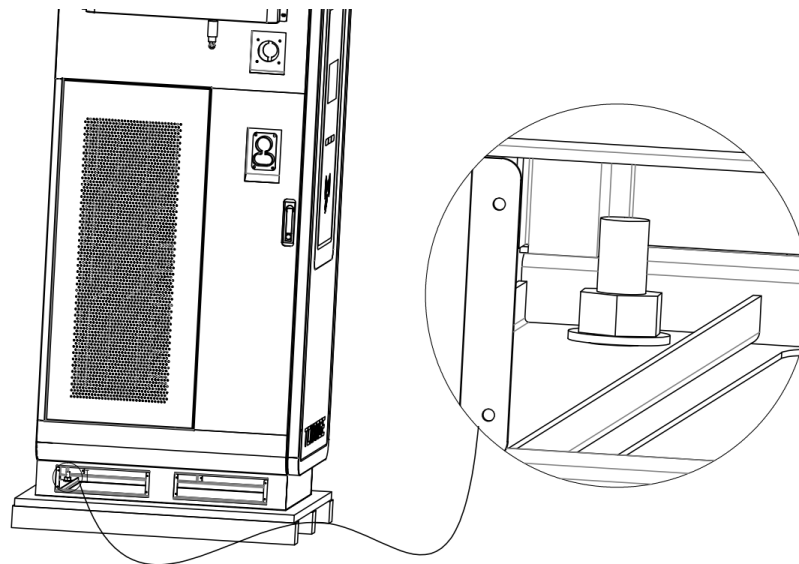

Figure 4.5 Detaching the Charger from the Shipping Pallet (If Needed)
- In some cases, the charger may be shipped with **screws attaching the pedestal of the charger to the shipping pallet** (see Figure 4.5). In preparation for the hoisting operation of the charger, unscrew these screws to make sure that the charger is unhinged from the shipping pallet.